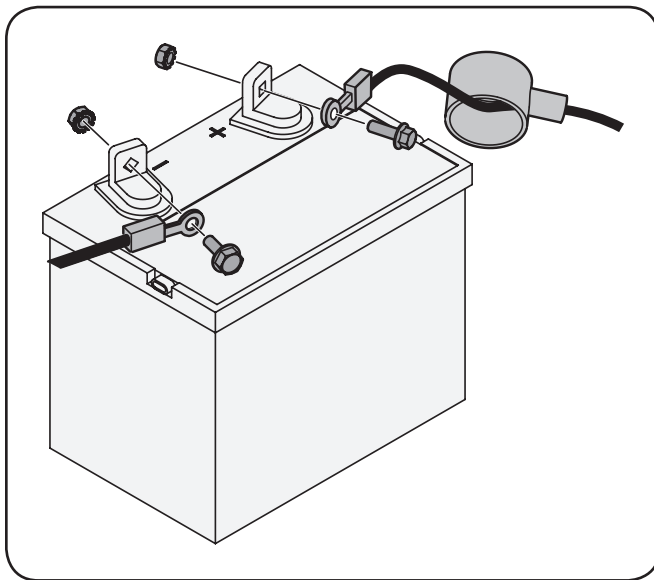

Figure 3-2
1. Remove the plastic cover, if present, from the positive (+) battery terminal and attach the red cable to the positive battery terminal (+) with the bolt and hex nut. See Fig. 3-2.
2. Remove the plastic cover, if present, from the negative (-) battery terminal and attach the black cable to the negative battery terminal (-) with the bolt and hex nut. See Fig. 3-2.